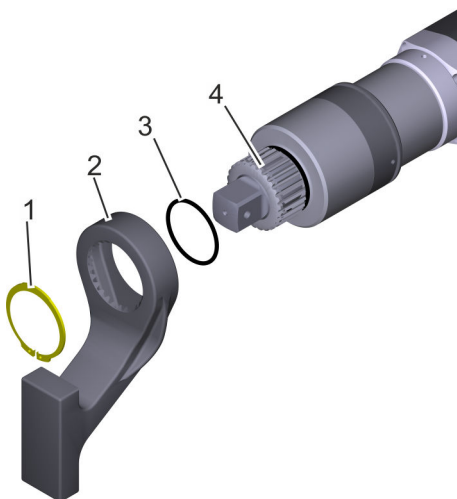

Fig. 27: Securing the reaction arm
Carefully slide the O-ring (Fig. 27/3) onto the serration (Fig. 27/4) on the nutrunner.
3. ➔ Push the reaction arm (Fig. 27/2) onto the serration.
- 4.** → Slide on the circlip (Fig. 27/1) with the aid of the circlip pliers (Fig. 28) and clamp it.